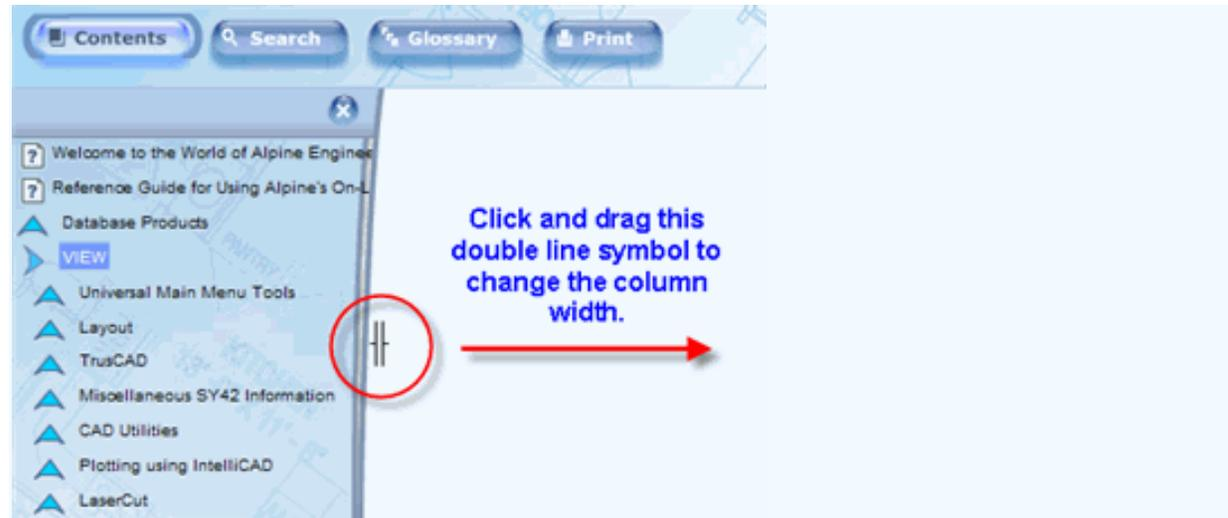

Figure-02
- ◆ If you would like to enlarge the **Table of Contents (TOC)** column, place your mouse near the border line. When the double line symbol appears, hold down the **LMB** and drag open the column to a new size (*Figure-02*).